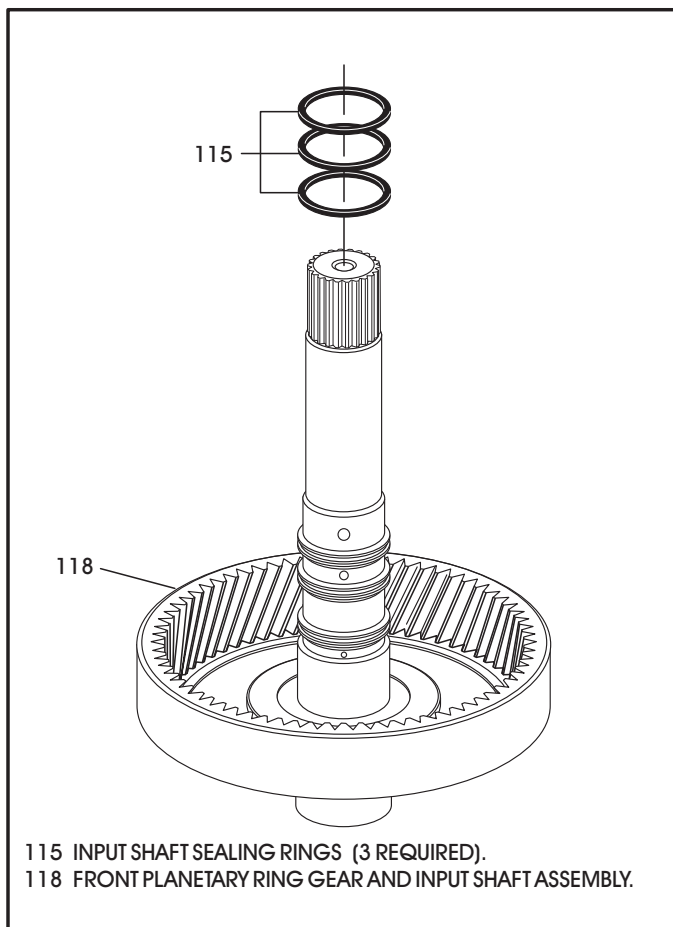

Figure 142
8. Install three new sealing rings in the grooves of input shaft, as shown in Figure 142.